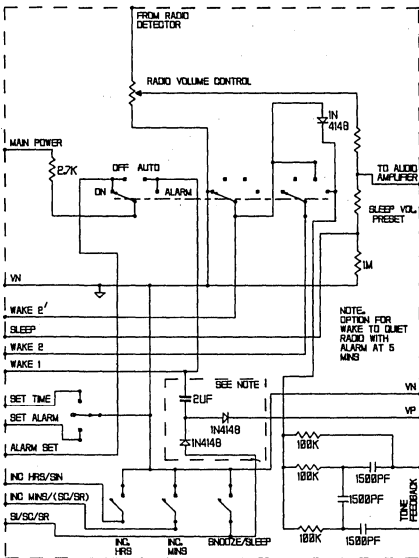

Fig. 15 RADIO SWITCHING
- Option 2 Rotary switch operation (Fig.15)
- Option 3 (Fig.15,16B) Sine wave using the existing radio audio amplifier